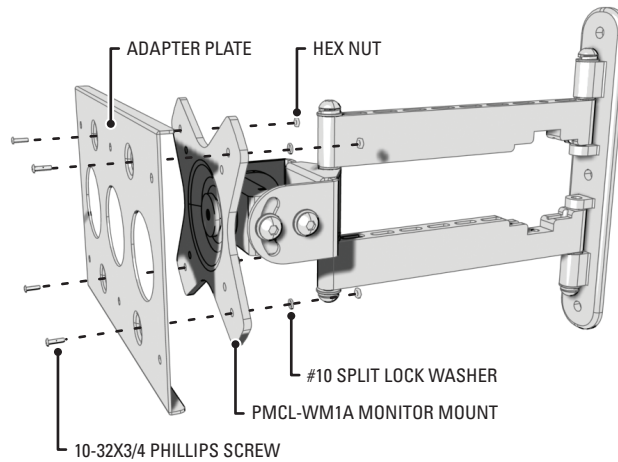

Figure 1. Attaching the PMCL-V100 Monitor Mount Adapter to a Monitor Mount
1. Use the 10-32 x 3/4-inch pan head Phillips screws, #10 split lock washers, and hex nuts (supplied) to secure the adapter plate to the monitor mount. Refer to Figure 1.